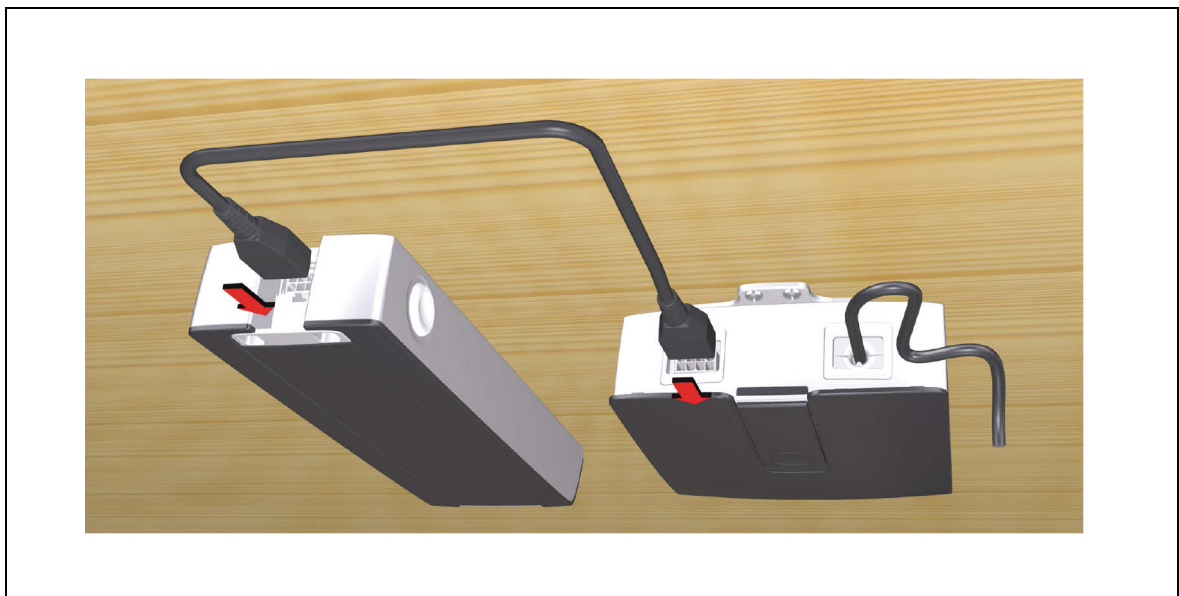

Figure 7 Example: Connecting to the POWER SUPPLY HE-300 SMPS
- 1 Connect the CONTROL UNIT HE-300 to the external DewertOkin POWER SUPPLY, as shown in Figure 7 . Use the proper DewertOkin cable for this connection.